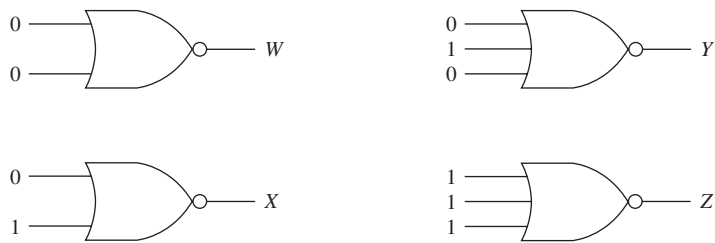

Figure P31
31. Determine the logic level at W , X , Y and Z in Figure P31.